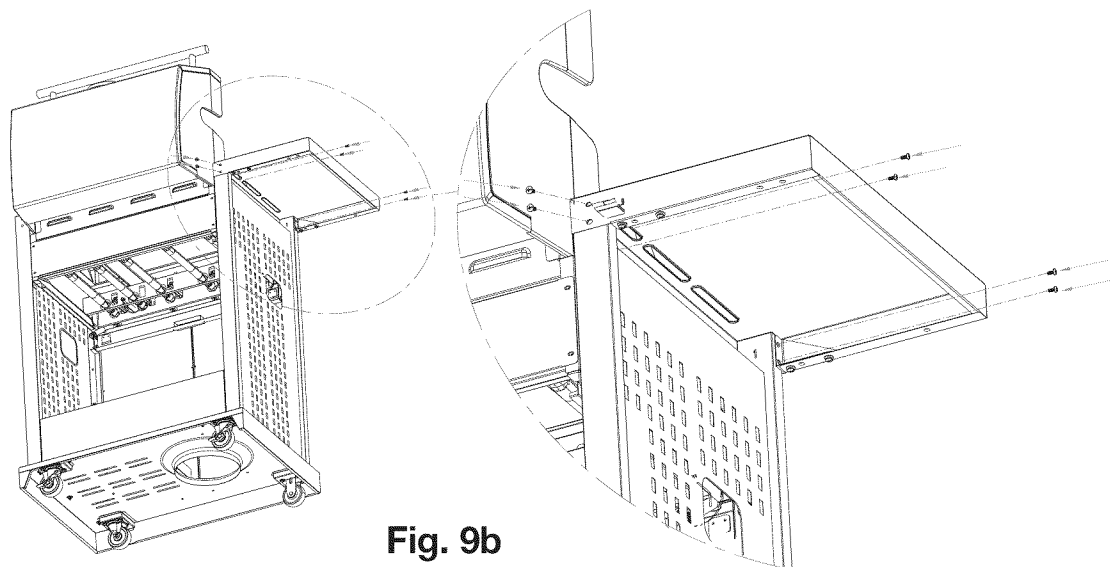

Fig. 9b
- Attach shelf to the left-side panel from outside to inside of firebox with four (4) M5 x 10 screws as shown in **Fig. 9b**.
- Attach shelf from back to the left-side panel with two (2) M5 x 10 screws as shown in **Fig. 9b**.